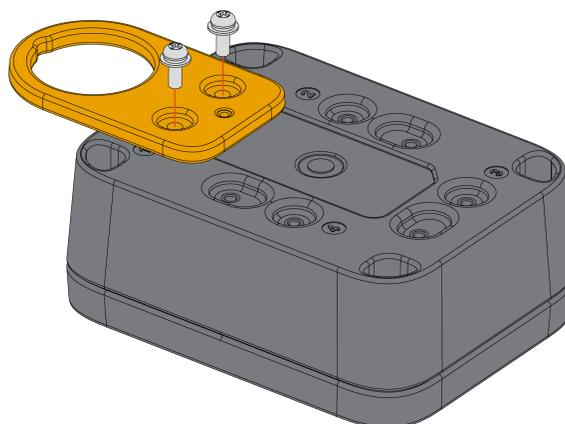

Figure 38: Fixing the hook loop mount on the enclosure
2. Fix the hook loop mount marked with the letter **J** on the WisBlock Unify Enclosure using two (2) pieces of M3*8 mm Head screw with washer. Place it on fixed position number **1** or **3** of the enclosure as shown in **Figure 38**.